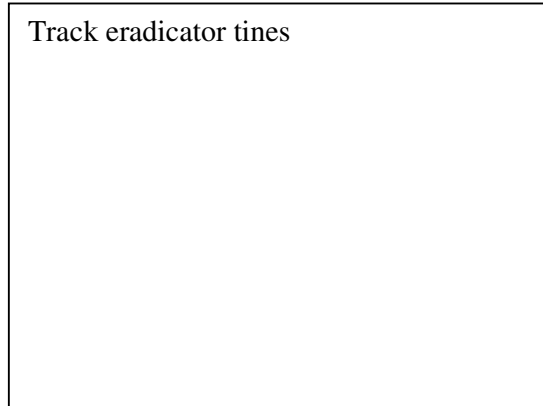

Fig. 9
The track eradicator kit is designed to break up the compacted soil created under the tractor wheels. Two pairs of tines (item 1, fig. 9) mounted to the powavator centre frame are positioned directly behind the tractor wheels. Adjustment is provided for different track widths and the point depth is set using the locking pins (item 2, fig. 9).